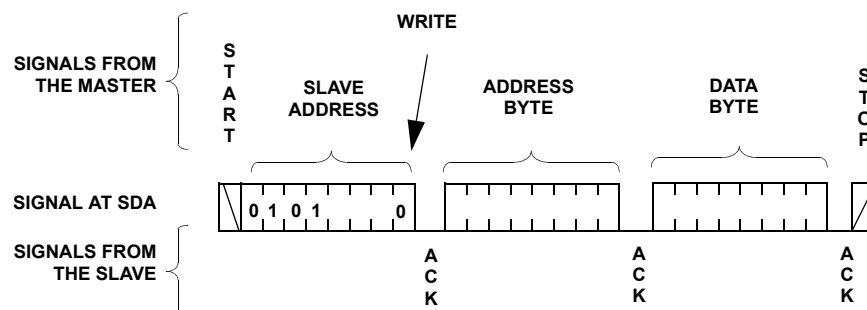
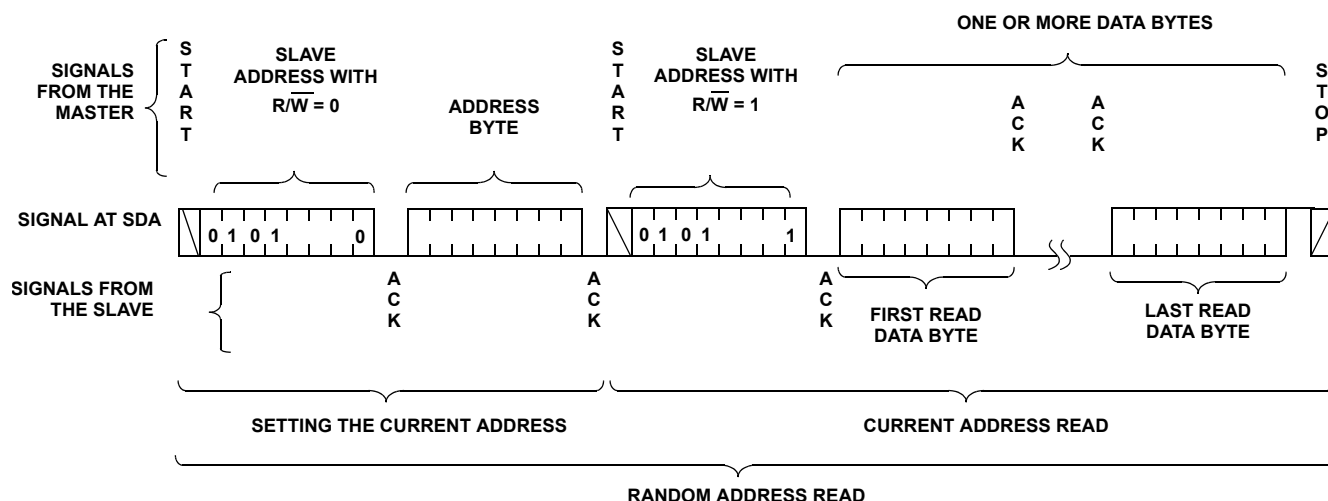

FIGURE 7. BYTE WRITE SEQUENCE
FIGURE 9. MOVE/READ SEQUENCE
14. Access the desired DR or WCR using a new write or read command (see Figure 7 for write and Figure 9 for read.)
For any Byte Write operation, the X9252 requires the Slave Address byte, an Address Byte, and a Data Byte (see Figure 7). After each of them, the X9252 responds with an ACK. The master then terminates the transfer by generating a STOP condition. At this time, if the write operation is to a volatile register (WCR, or SR), the X9252 is ready for the next read or write operation. If the write operation is to a nonvolatile register (DR), and the \overline{WP} pin is high, the X9252 begins the internal write cycle to the nonvolatile memory. During the internal nonvolatile write cycle, the X9252 does not respond to any requests from the master. The SDA output is at high impedance.
The Move/Read operation simultaneously reads the contents of a Data Register (DR) and moves the contents into the corresponding DCP's WCR and the WCRs of all DCPs are updated with the content of their corresponding DR. Move/Read operation consists of a one byte, or three byte instruction followed by one or more Data Bytes (see Figure 9). To read an arbitrary byte, the master initiates the operation issuing the following sequence: a START, the Slave Address byte with the $\overline{R/\overline{W}}$ bit set to "0", an Address Byte, a second START, and a second Slave Address byte with the $\overline{R/\overline{W}}$ bit set to "1". After each of the three bytes, the X9252 responds with an ACK. Then the X9252 transmits Data Bytes